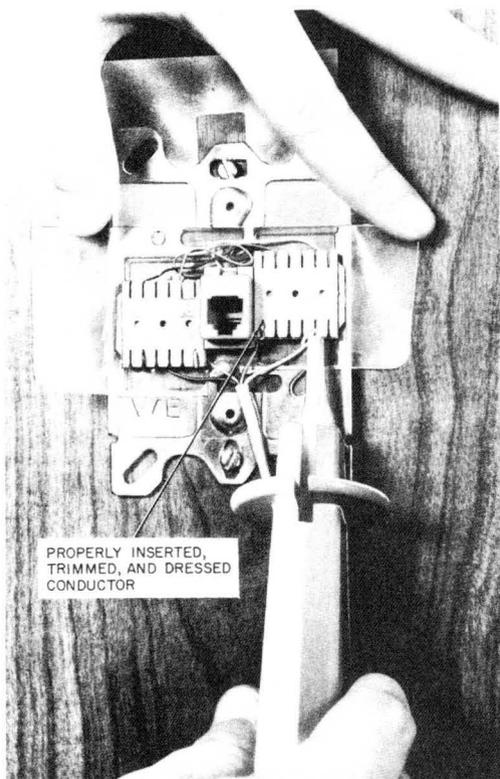

Fig. 9—Terminating Wire With Lead Insertion Tool in 630A4 Connecting Block
Note: 630A4 connecting blocks manufactured after March 1977 will be received from the factory with a plastic protective wrapper folded around the quick-connect terminals. To connect station wire, fold out the front and side flaps, make connections and dress leads (Fig. 9), then refold wrapper across terminals. This
- (1) Leave station wire conductors unstripped.
- (2) Dress the conductors so they will not be pinched or cross over each other.
- (3) Use the lead insertion tool to seat conductors in bottom of slots (Fig. 9). Do not twist or rock insertion tool and allow sufficient slack. Do not insert more than one conductor in each slot. Trim the terminated leads approximately 1/4 of an inch from the connecting surface and